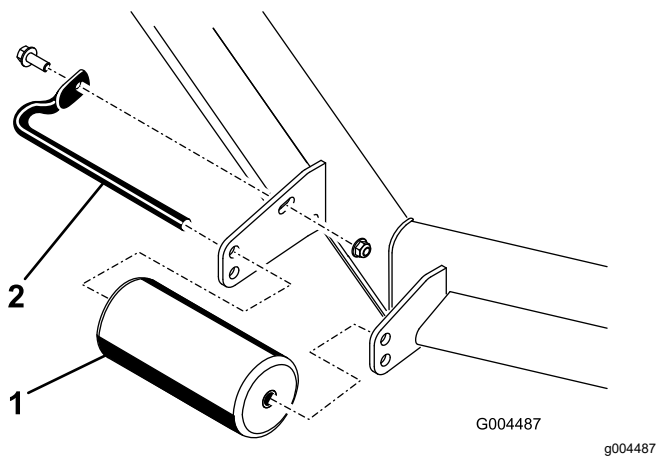
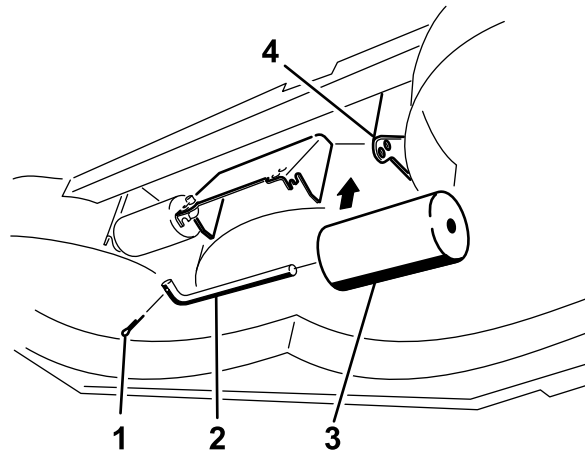

Figure 12
Figure 16
4. Remove the fasteners securing each roller on your cutting unit and move the rollers up or down as desired; refer to Figure 12 through Figure 16 as applicable for your cutting unit.